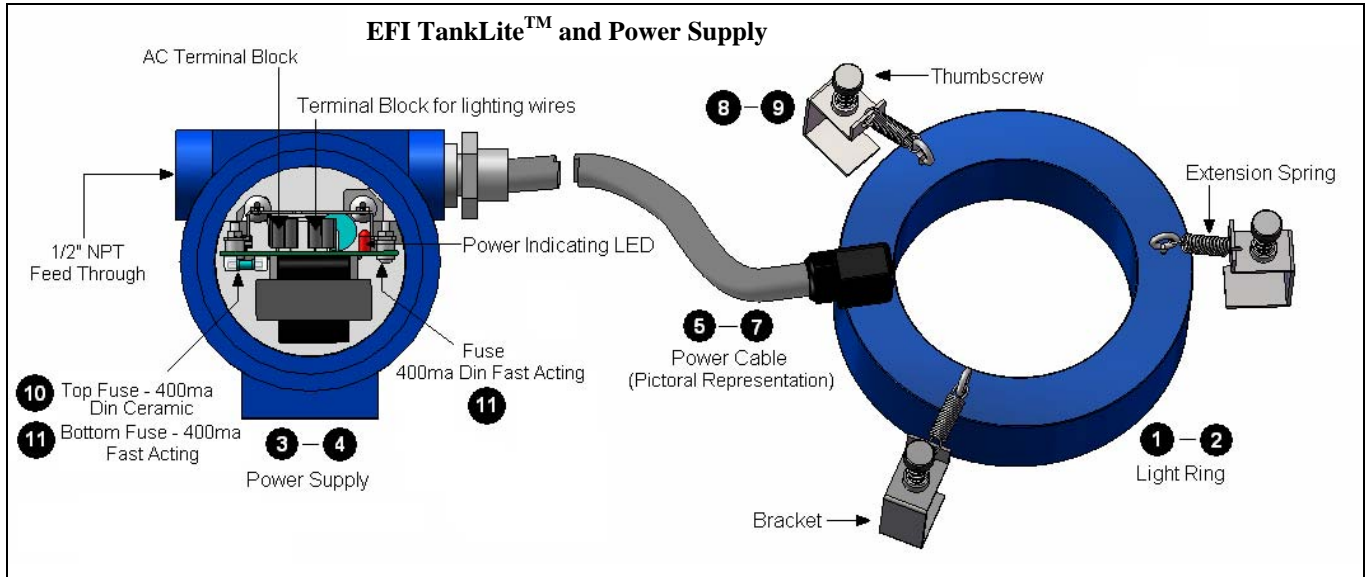

Figure 1
- 2) Open the cover of the power supply housing. Insert the AC Line wires into the housing and connect to the “AC IN” terminal block. Ground screws are located inside and outside the enclosure. **CAUTION:** The DC output is pre-wired. If this connection is removed during installation, reconnect the “AC IN” and “DC OUT” to the proper positions. Failure to do so will result in permanent damage to the power supply. (Ref. Fig. 1, pg. 4)
NOTE: See Figure 1 on next page for component locations.
- 6) Re-connect DC power plug and bench test unit by applying AC through the AC Input Connector (ref. Figure 1).